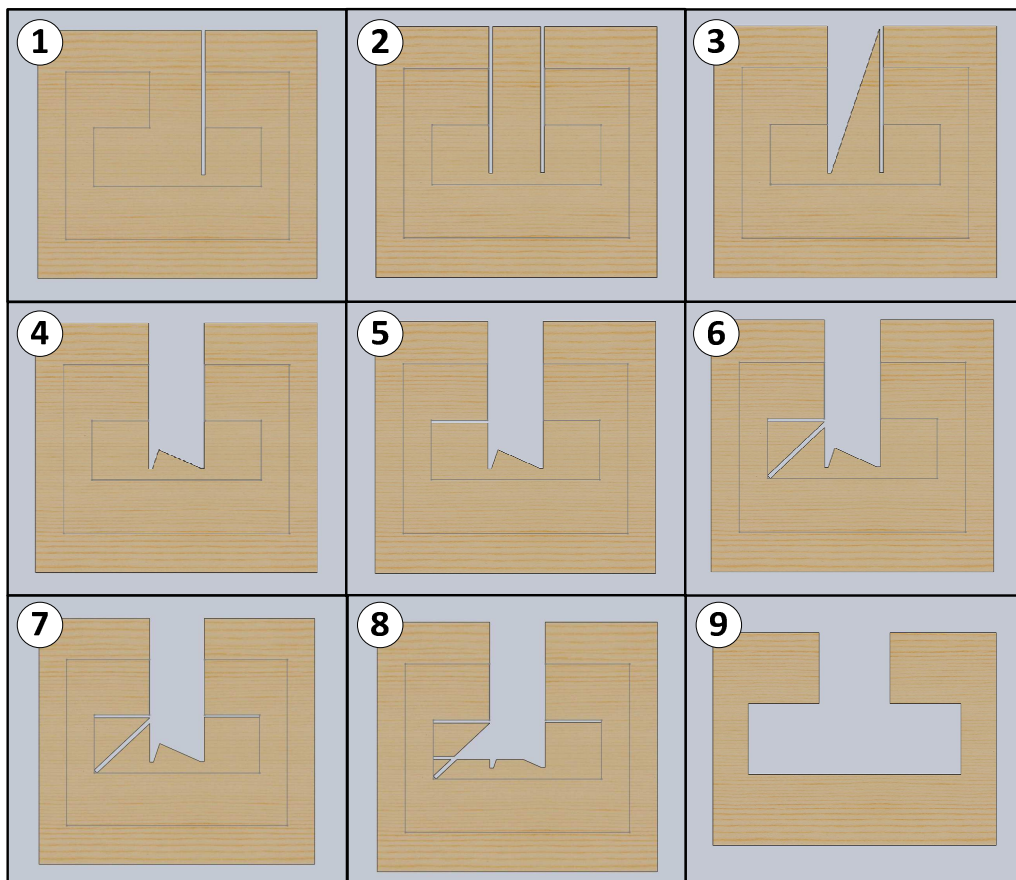

Figure 6: Example of sub cut order. Make sub cuts to clear all inside scrap.
- B. First cut out the inside lines. When cutting the inside of the piece, make smaller sub cuts until the correct lines are cut as shown started in Figure 6.